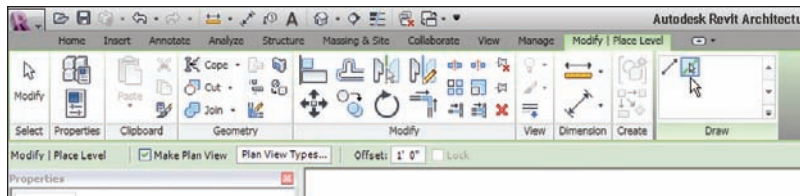

FIGURE 3.5 Choosing the options for the Level command
2. On the Draw panel on the Modify | Place Level tab, you will see that you can either draw a line or pick a line, as shown in Figure 3.5. Make sure Pick Lines is selected.
4. At the end of the Options bar, you will see a field for an offset. Type 10 and press Enter. Basically the approach here is to pick Level 2 and create a new level that is offset 10'-0" above (see Figure 3.5).